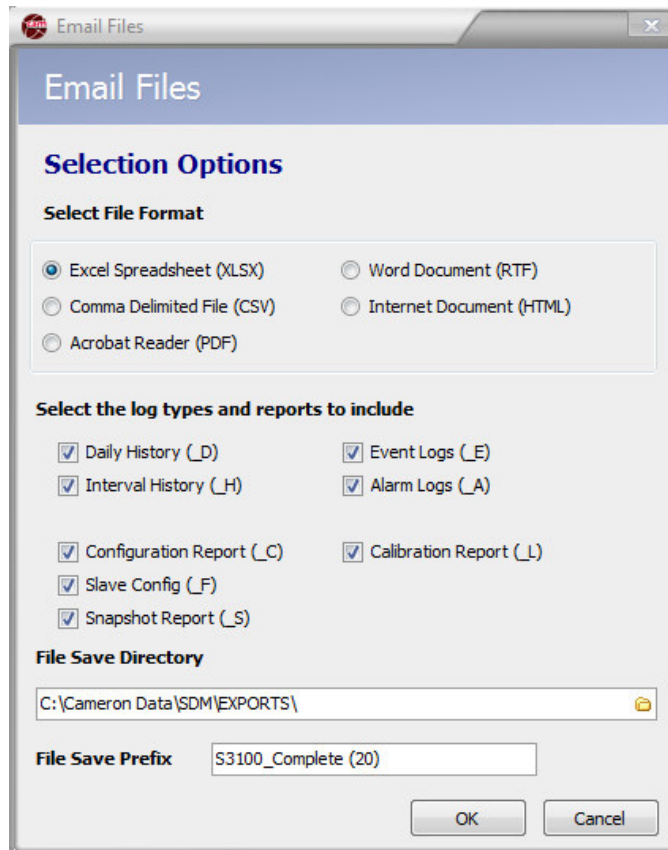

Figure 3.6—Email Files dialog
1. Select **Email Selected** from the *Email Data* dropdown menu and select the desired file format and all desired logs/reports from the options provided (Figure 3.6, page 35).